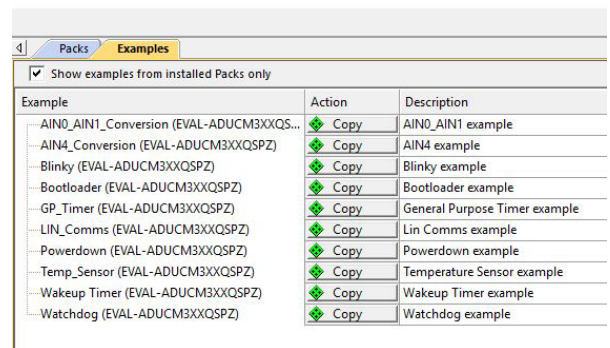

Figure 9. Examples Tab
5. Click the **Examples** tab (see Figure 9).